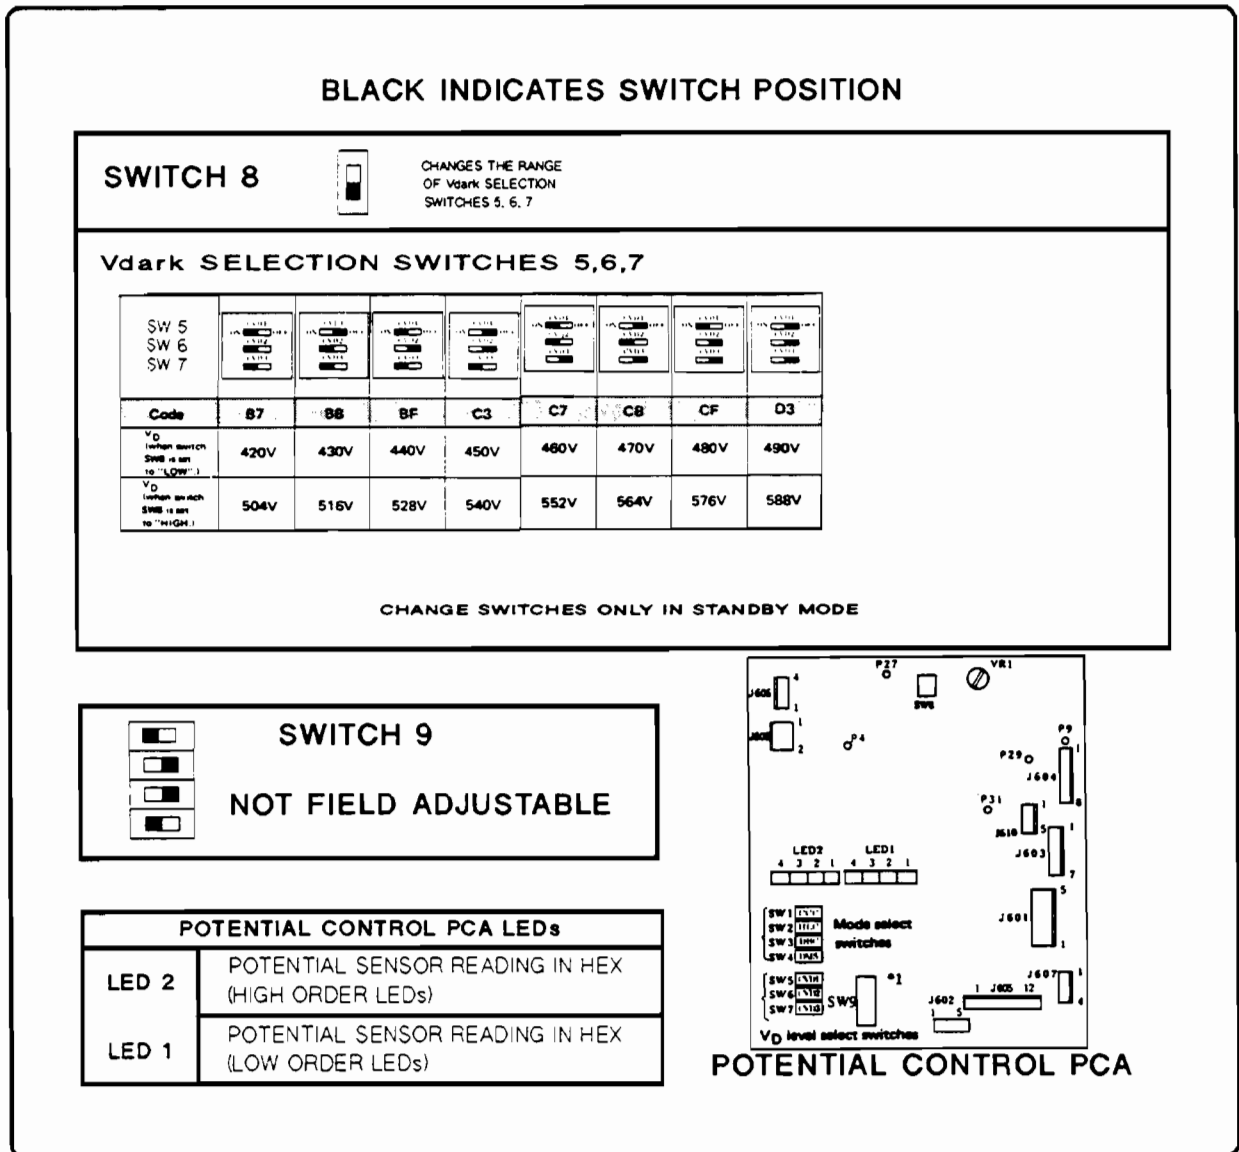

Figure 7-42. Potential Control PCA and Vdark Switches 5, 6, 7 & 8.
8. Adjust the VD Target Select switches (SW 5, 6, 7 and 8) on the Potential Control PCA to the value for Vdark given on the EP Drum Label. See Figure 7-42 for location and switch settings (note that switches 5, 6, & 7 change values depending on the setting of switch 8).